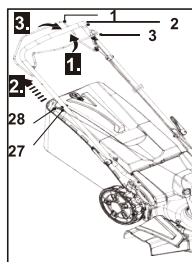

Fig. 22
1. Make sure that the fuel valve lever at the ON position (Fig. 22).
2. Stand behind the upper handle bar (2).
3. Pull back the brake lever (3) and hold it against the upper handle bar (2) (Fig. 22, step 1).
4. Rest the recoil starter handle (28) onto the hook (27) located on the right hand side of the upper handle bar (2).
5. Pull the recoil starter handle (28) lightly until you feel resistance then pull it rapidly. Do it repeatedly until the engine starts (Fig. 22, step 2).
6. When you are ready to mow, push the self-propelling lever (1) forward and hold it against the upper handle bar (2) (Fig. 22, step 3). The product starts moving forward and begins mowing.